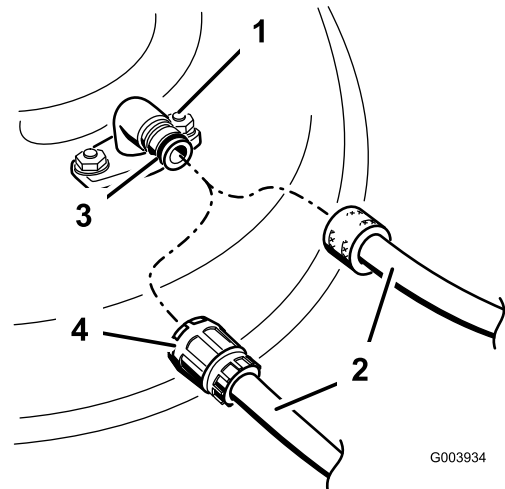

Figure 56
3. Attach the hose coupling to the end of the mower washout fitting, and turn the water on high (Figure 56).